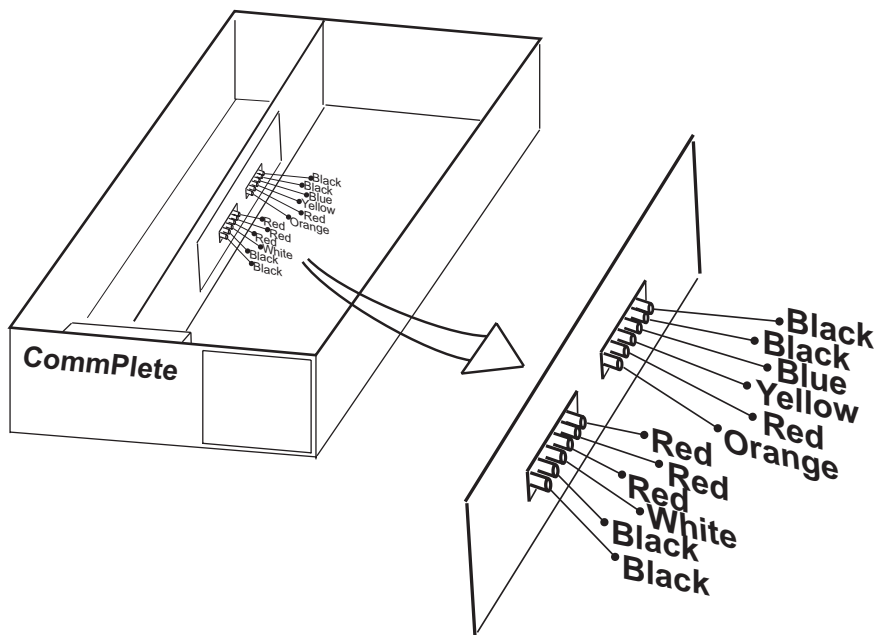

Figure 4-5b: Wire Colors and Orientation of Power Cables
**Note:** Before placing the card cage back into the chassis, verify that the power connectors from the power supply to the backplane are fully attached. Figure 4-5b shows the wire colors and correct orientation of the power cables.
**Note:** Before installing card cage, make sure power connectors from power supply to midplane are fully connected (Figure 4-5b).